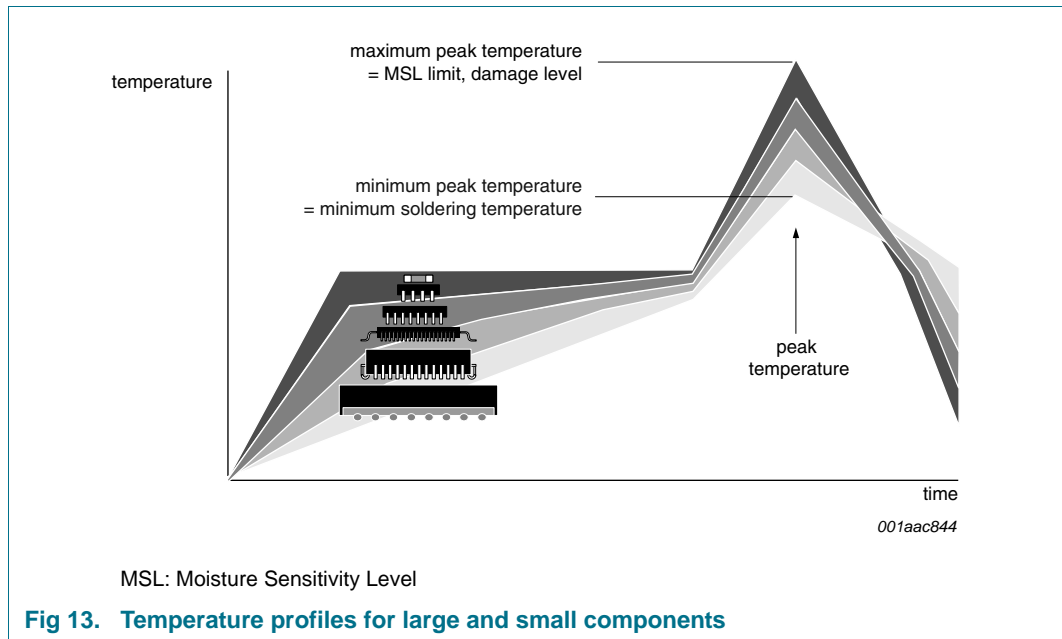

Fig 13. Temperature profiles for large and small components
- Lead-free versus SnPb soldering; note that a lead-free reflow process usually leads to higher minimum peak temperatures (see Figure 13) than a SnPb process, thus reducing the process window
Studies have shown that small packages reach higher temperatures during reflow soldering, see Figure 13.